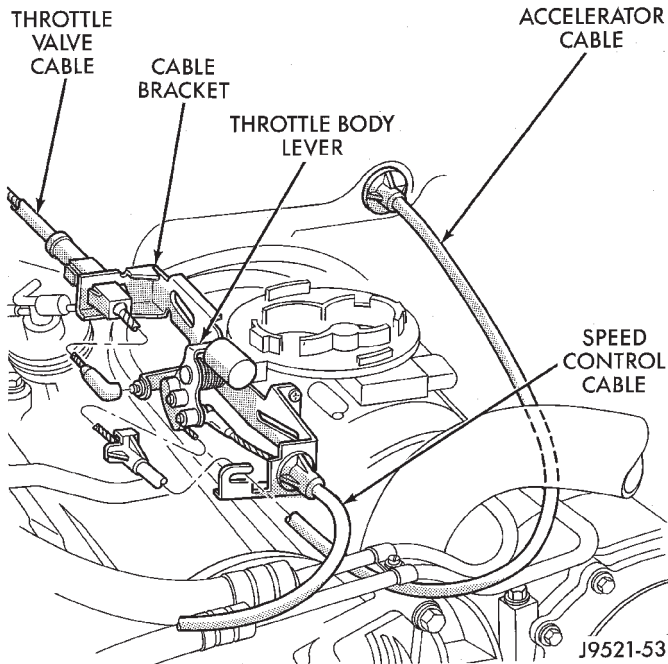

Fig. 246 Throttle Valve Cable Attachment —At Engine
The transmission throttle valve is operated by a cam on the valve body throttle lever. The throttle lever is actuated by a cable connected to the engine throttle body lever (Fig. 246). A retaining clip at the engine-end of the cable is removed to provide for cable adjustment. The retaining clip is then installed
- (1) Turn ignition key to OFF position.
- (2) Remove air cleaner.
- (3) Verify that throttle body lever is at curb idle position. Then verify that transmission throttle lever (Fig. 246) is also at idle (full forward) position.
- (4) Slide cable off attachment stud on throttle body lever (Fig. 246).
- (5) Compare position of cable end to attachment stud on throttle body lever:
- (6) Reconnect cable end to attachment stud. Then with aid of a helper, observe movement of transmission throttle lever and lever on throttle body.